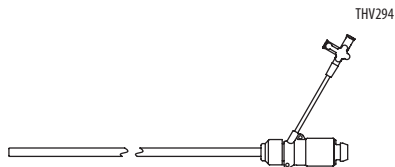

Figure 1
- an expandable sheath (eSheath) (Fig 1) that provides access into the target vessel while maintaining hemostasis and temporarily enlarges its diameter to allow for passage of a device.